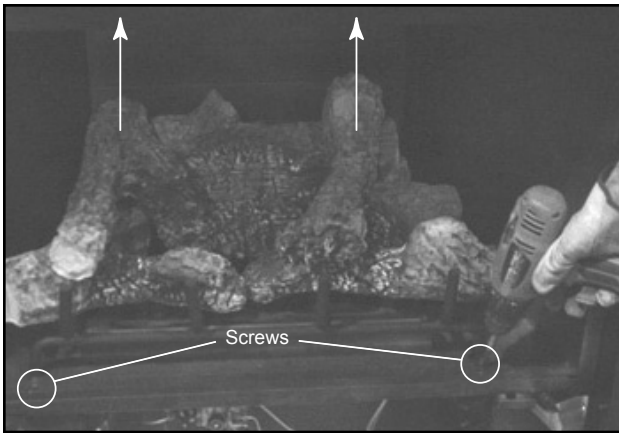

Figure 1.4 Loosen Grate
- Lift the two top logs off the log set. See Figure 1.4.
- Remove the grate/log assembly by removing two screws as shown in Figure 1.4. Lift and pull grate/log assembly from front of firebox.